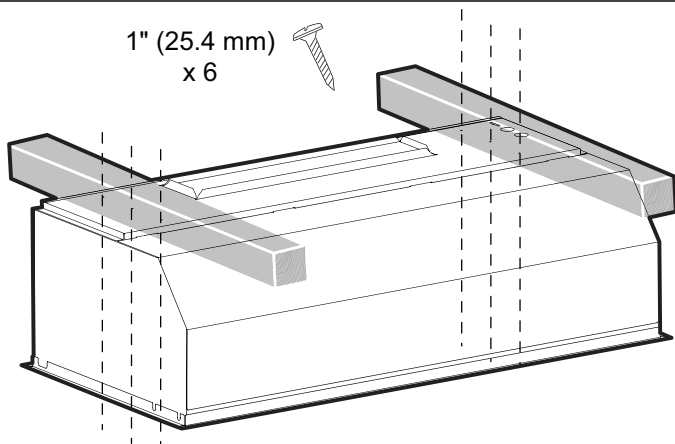

Figure 31: Side Screws
- c) Secure to the sides of the housing framework using six (6) x 1" (25.4 mm) mounting screws, 3 per side as indicated in *Figure 31*.